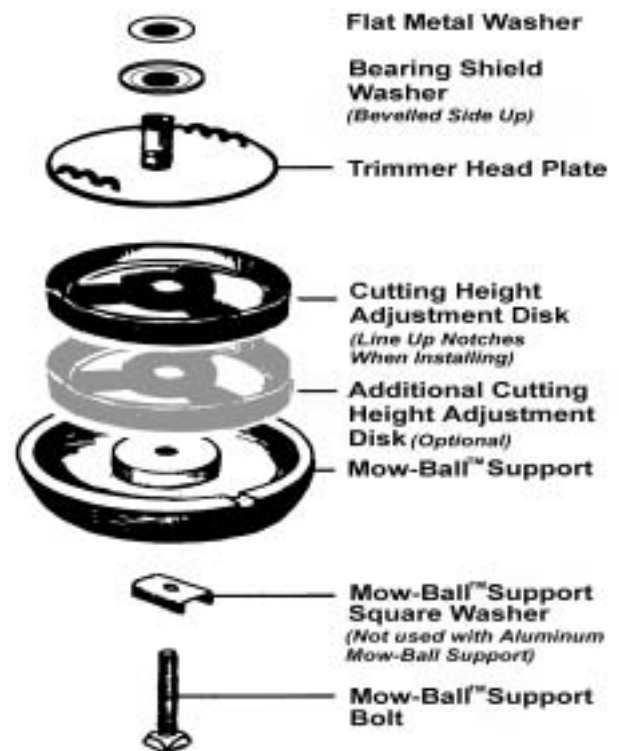

Figure 28
4. Reassemble the components in the order shown in *Figure 28*, adding the additional cutting height disk above or below the one already installed.